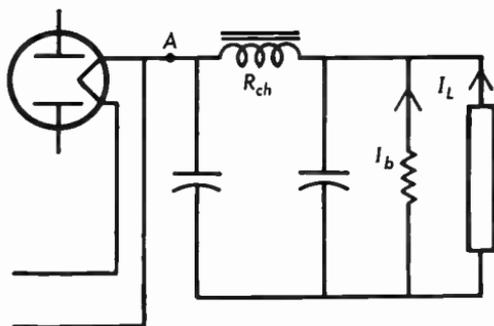

Fig. 9.10 Filter with bleeder resistor.
9.10 The rectifier circuit of Figure 9.10 has a choke resistance $R_{ch} = 250$ ohms and a load demand of $I_L = 90$ milliamperes. A type